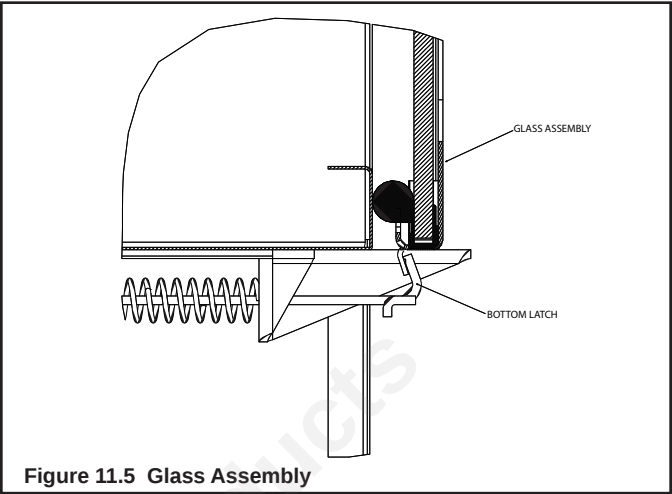

Figure 11.5 Glass Assembly
- Remove glass assembly after the bottom two latches have been released (see Figure 11.5).